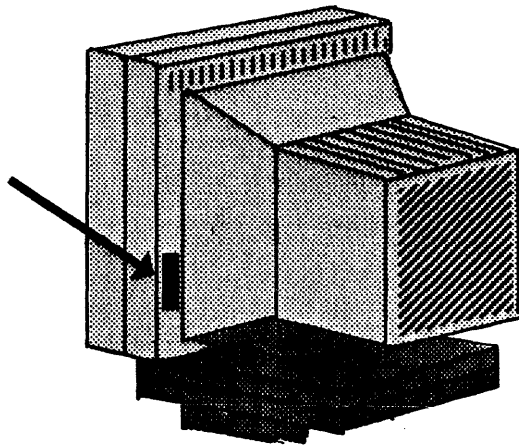

Figure 28. Adjusting the Brightness Control Knob
3. Swivel and tilt the screen to adjust it for your comfort. To adjust the screen intensity, turn the Brightness Control Knob, located behind the screen on the right side, as illustrated in Figure 28.